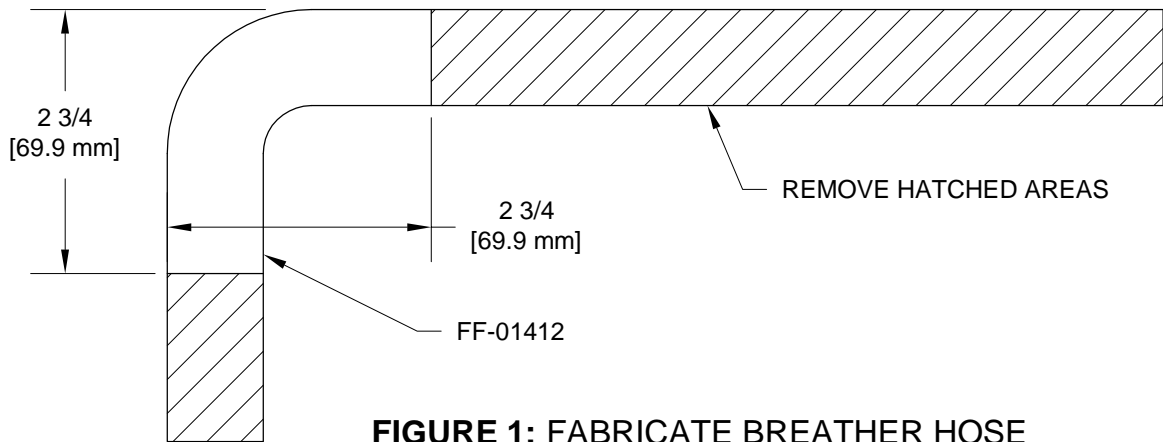

FIGURE 1: FABRICATE BREATHER HOSE
Step 1: Fabricate the FF-01412 Breather Hose from EA CV HOSE 9816 by trimming to the dimensions shown in Figure 1.